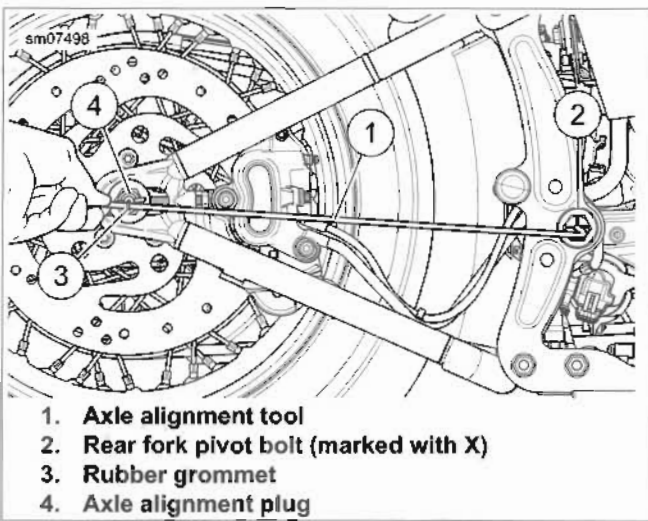

Figure 2-40. Checking Alignment Using Axle Alignment Tool
- See Figure 2-40. Place blunt point of alignment tool (1) in the center of the X marked on the rear fork pivot bolt (2).
- Slide rubber grommet (3) along tool shaft until it aligns with hole in center of alignment plug (4).